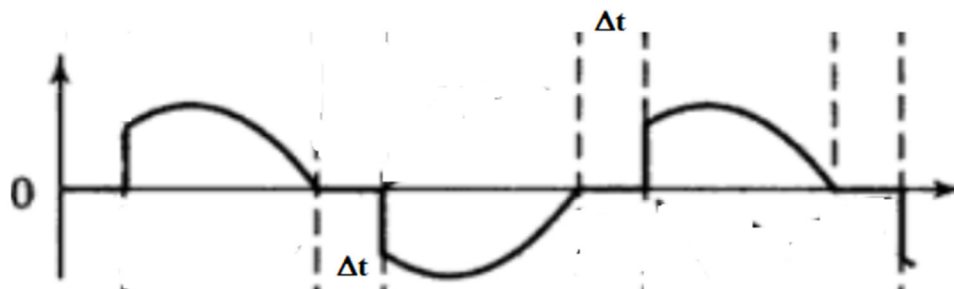

Figure 12.7: Measuring Δt for Phase Controlled Single Phase AC Voltage Controller
- Measure the value of Δt using cursor option in the oscilloscope as shown in the Figure 12.7